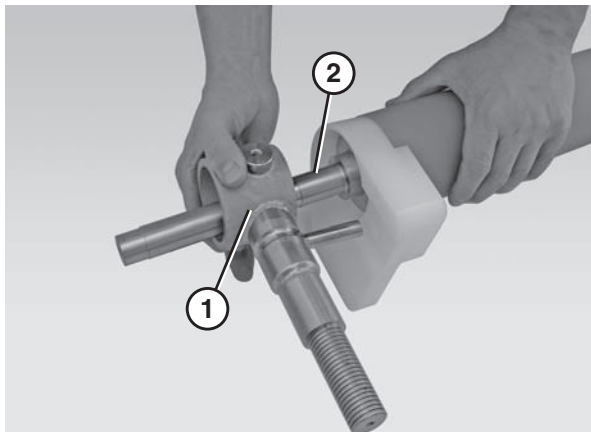

Figure 62
- Slide the motor support bracket (**Figure 62, item 1**) off the drive spindle (**Figure 62, item 2**).